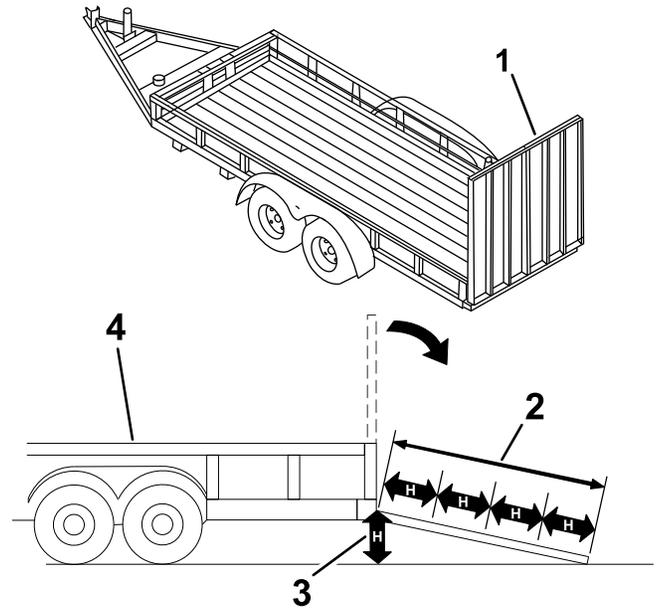

Figure 49
3. Lower the ramp, ensuring that the angle between the ramp and the ground does not exceed 15 degrees (Figure 49).
- Lower the ramp, ensuring that the angle between the ramp and the ground does not exceed 15 degrees (Figure 49).